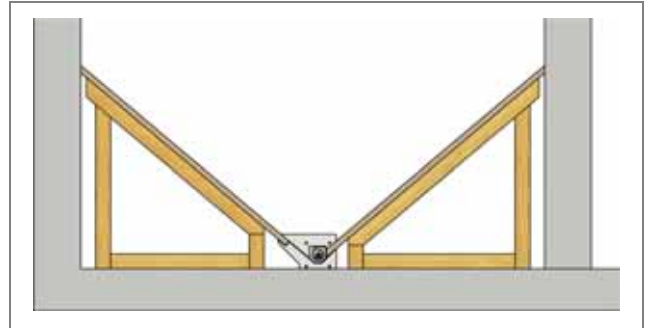

Fig.2: Store for a delivery unit with a screw
- ☞ The weight of the pellets must not be borne by the trough! (see Fig. 2)